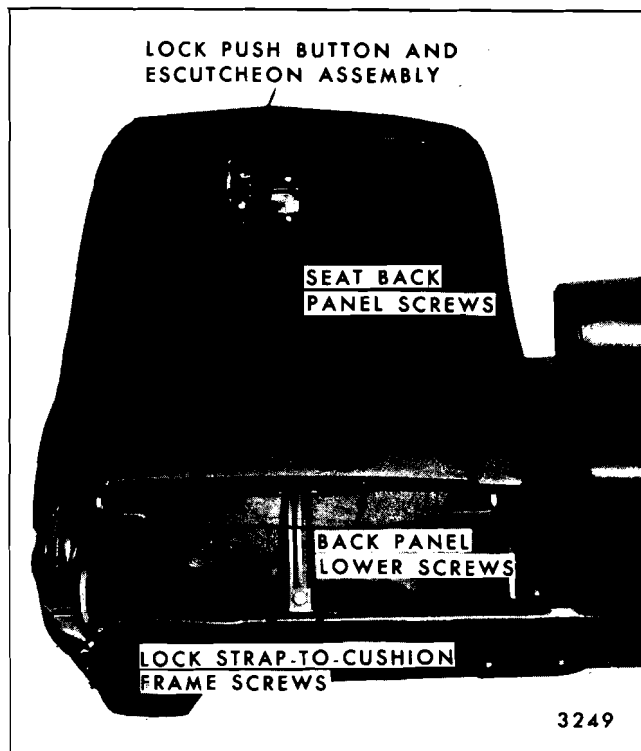

Fig. 15-51—Strato Back Panel Removal - Strato Folding Seats (Except Reclining Seat)
2. Using a flat-bladed tool, carefully snap off seat back lock push button and escutcheon assembly and remove two screws securing seat back panel to lock assembly (Fig. 15-51).
3. Tilt seat back forward and remove three screws securing bottom of seat back panel to seat back frame (Fig. 15-51).